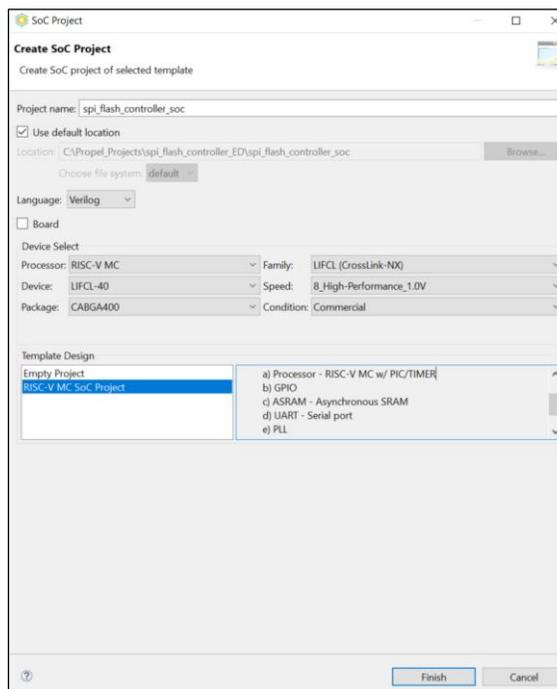

Figure 6.4. Create SoC Project
2. Create a new SoC design project by selecting **File > New > Lattice SoC Design Project**. The **Create SoC Project** window opens as shown in Figure 6.4.